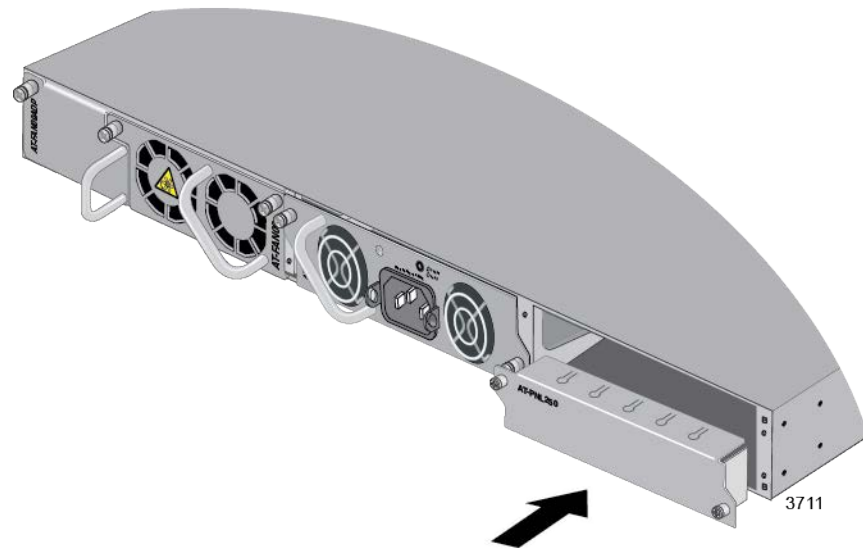

Figure 26. Installing a Blank Panel on a Power Supply Slot
- ❑ Use the AT-PNL800/1200 Blank Panel if the switch has only one AT-PWR800 or AT-PWR1200 Power Supply. Refer to Figure 26.